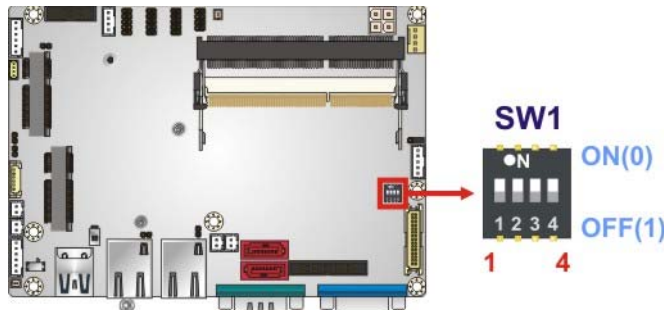

Figure 4-14: LVDS Panel Type Selection Switch Location
- Jumper Location:** See Figure 4-14